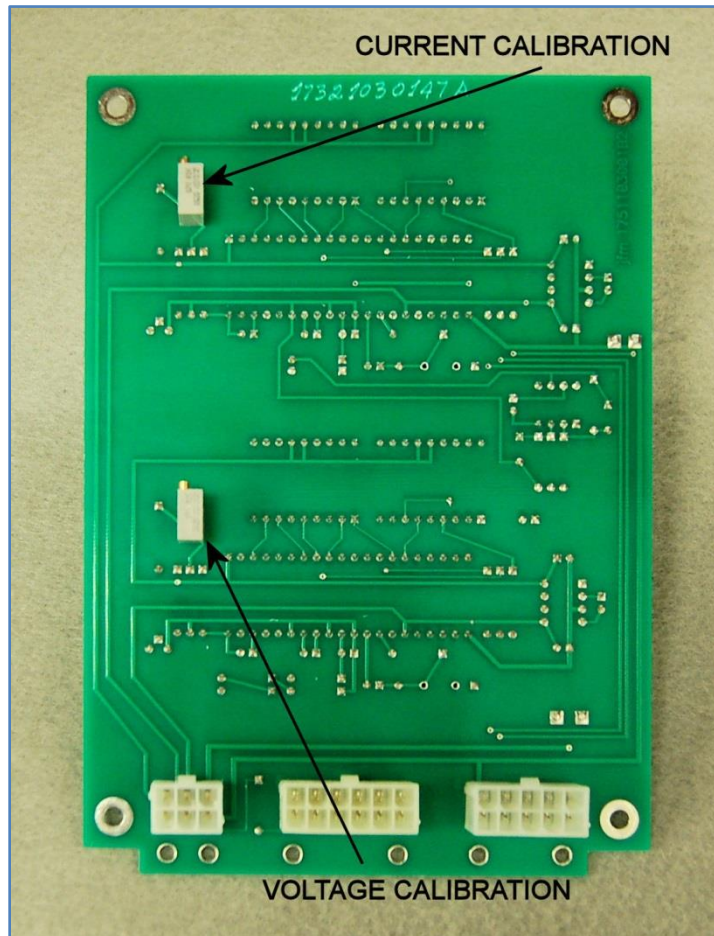

Figure 6 - Meters Board Adjustments (rear view)
12.2 DIGITAL METERS (see [Figure 6]).